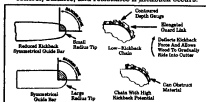

Figure 5
- **Reduced-Kickback Guide Bar**, designed with a small radius tip which reduces the size of the kickback danger zone on bar tip. Figure 5. A reduced-kickback guide bar is one which has been demonstrated to significantly reduce the number and seriousness of kickbacks when tested in accordance with safety requirements for electric chain saws as set by CSA Z62.1 & Z62.3.
- **Low-Kickback Chain**, designed with a contoured depth gauge and guard link which deflect kickback force and allow wood to gradually ride into the cutter. Figure 5. Low-Kickback Chain is chain which has met kickback performance requirements of CSA Z62.1 & Z62.3, & ANSI B175.1.